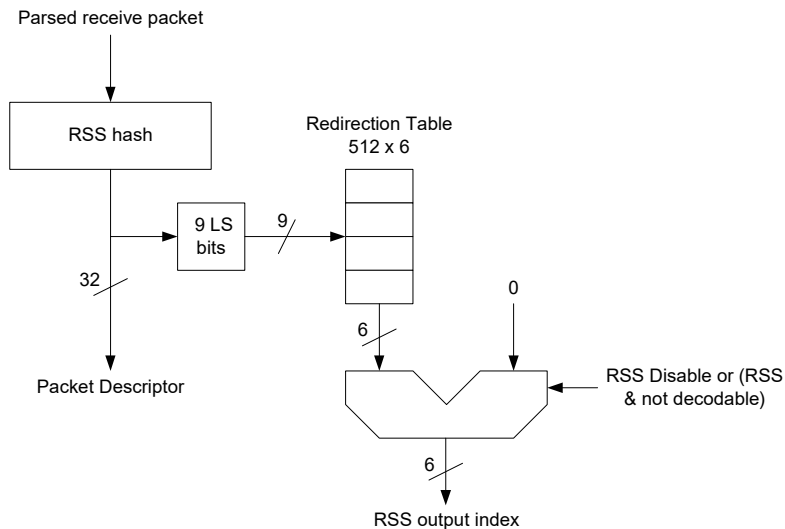
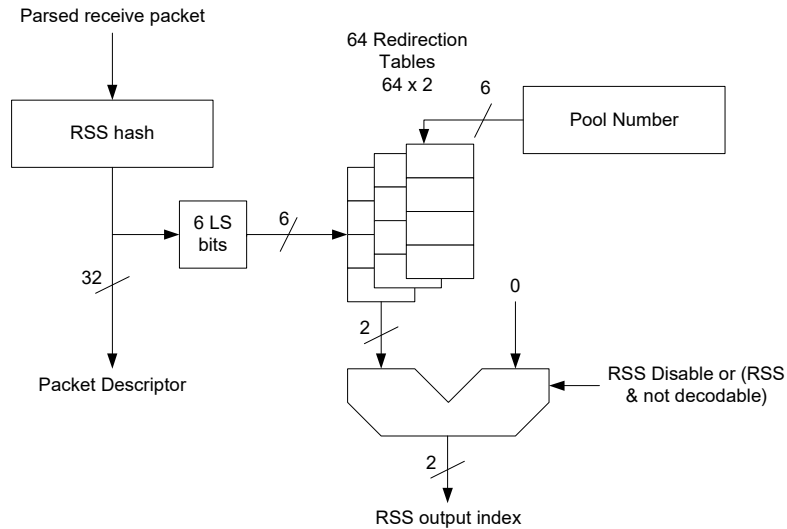

Figure 7-9. RSS Block Diagram (*MULTIPLE\_RSS = 0b*)
Figure 7-10. RSS Block Diagram (*MULTIPLE\_RSS = 1b*)
Figure 7-9 and Figure 7-10 show the process of computing an RSS output:
3. The X550 supports two modes of RSS defined by the MRQC.MULTIPLE\_RSS bit. When set to 0b a single RSS key and redirection table are supported. In this mode (usually used when virtualization is not enabled) the nine LSBs of the hash result are used as an index into a 512-entry redirection table. Each entry provides up to 6-bit RSS output index (Figure 7-9).
For SRIOV or VMDQ enabled modes (set by MRQC.MULTIPLE\_RSS set to 1b), The X550 supports up to 64 (one per pool) RSS keys and redirection tables (both can be controlled and programmed at the VF space). In this mode the 6 LSBs of the hash result are used as an index into a 64-entry redirection table. Each entry provides up to 2-bit RSS output index (Figure 7-10).